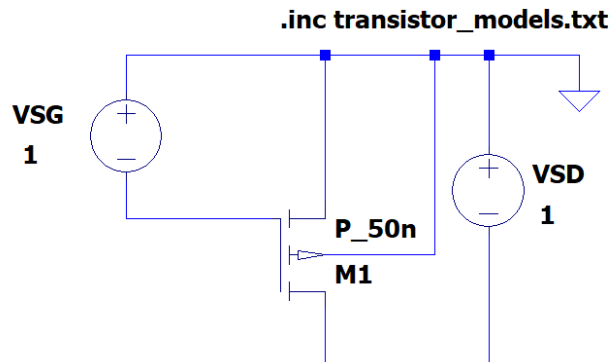

Figure 2.7 DC Analysis Setup for PMOS Transistor
1. **Recreate the circuit in Figure 2.7.** Don't forget to include the following setups: